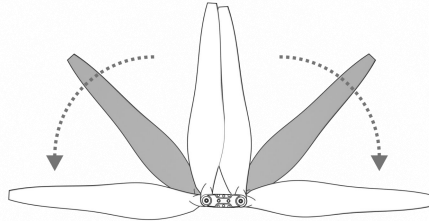

Figure 1-19 Unfold the Propellers
Step 5: Unfold the propellers to 180°, as shown in Figure 1-19.